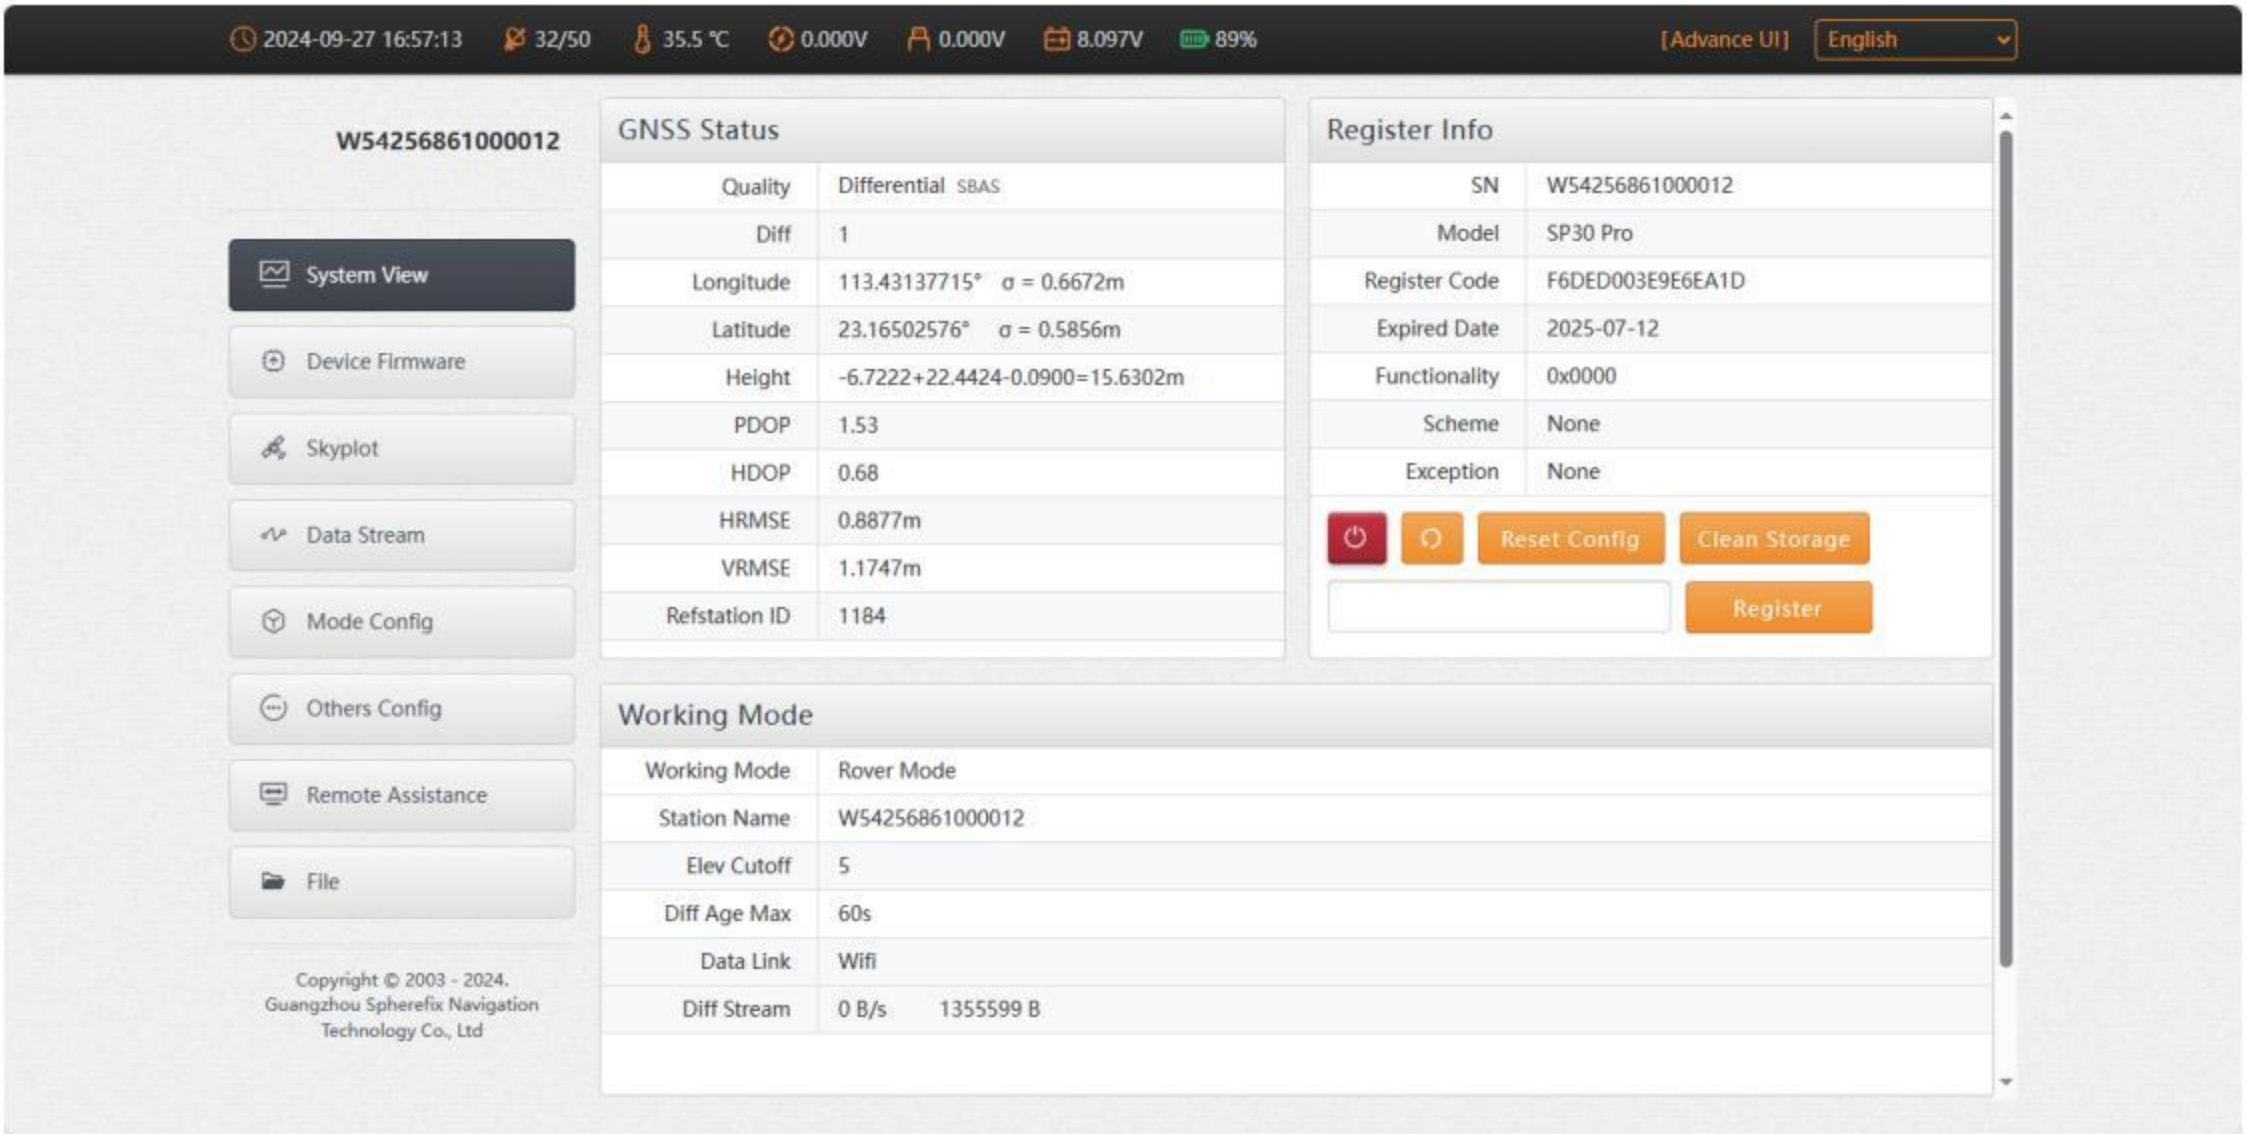

Figure 2
- 2. Open the web browser and input the IP address 10.10.10.10. The interface is shown in Figure 2.